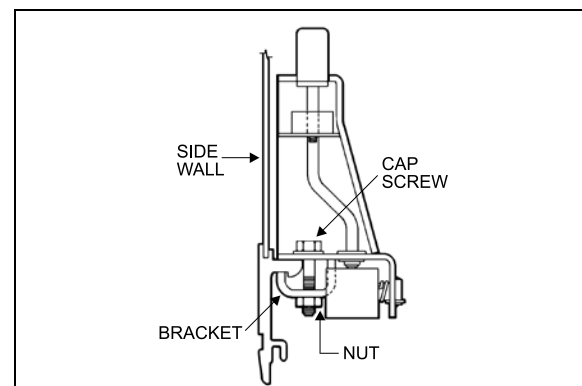

FIGURE 78: ARMREST
4. Remove 2 cap screws, nuts, and washers holding seat frame to side wall and retain the 2 holding brackets. See Figure 78.